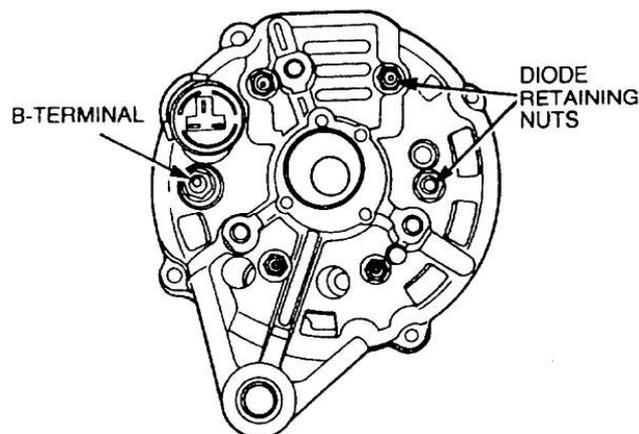

Figure 314 Removal of the Diode Assembly
- g. Remove the nut retaining the B-terminal to the rear cover (Figure 314). Remove the five nuts retaining the diode holder taking note of the insulating washer positions.